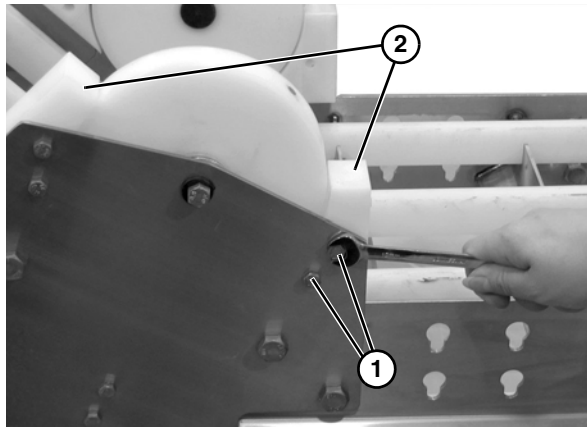

Figure 65
- Remove two cap screws (**Figure 65, item 1**) on each side of the knuckle and remove the hold down roller guards (**Figure 65, item 2**). Repeat on opposite side of the conveyor.